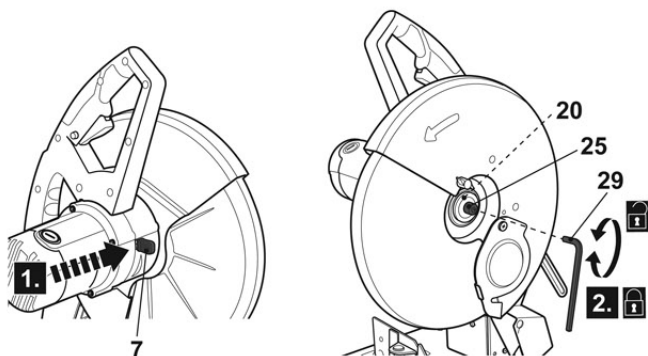

Fig. 14
- > Tighten the locking bolt (25) clockwise onto the spindle (20) with the hex key (29) (Fig. 14). Release the spindle lock button (7) afterwards.